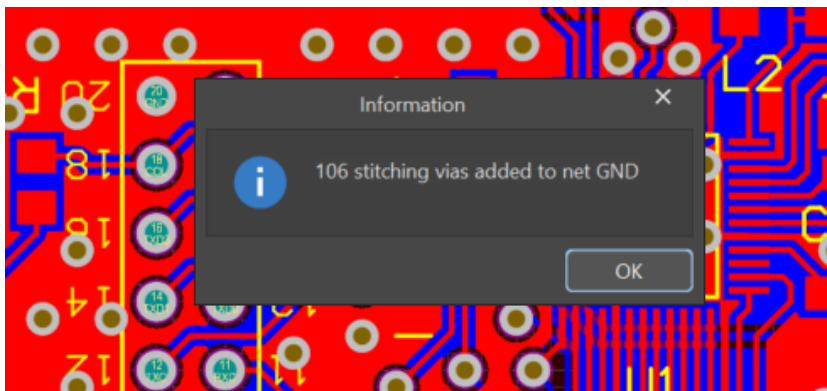

Figure 6. New *Information* dialog with added vias
- e) A new *Information* dialog will appear, displaying the new number of vias added to the stitching area as shown in Figure 6.